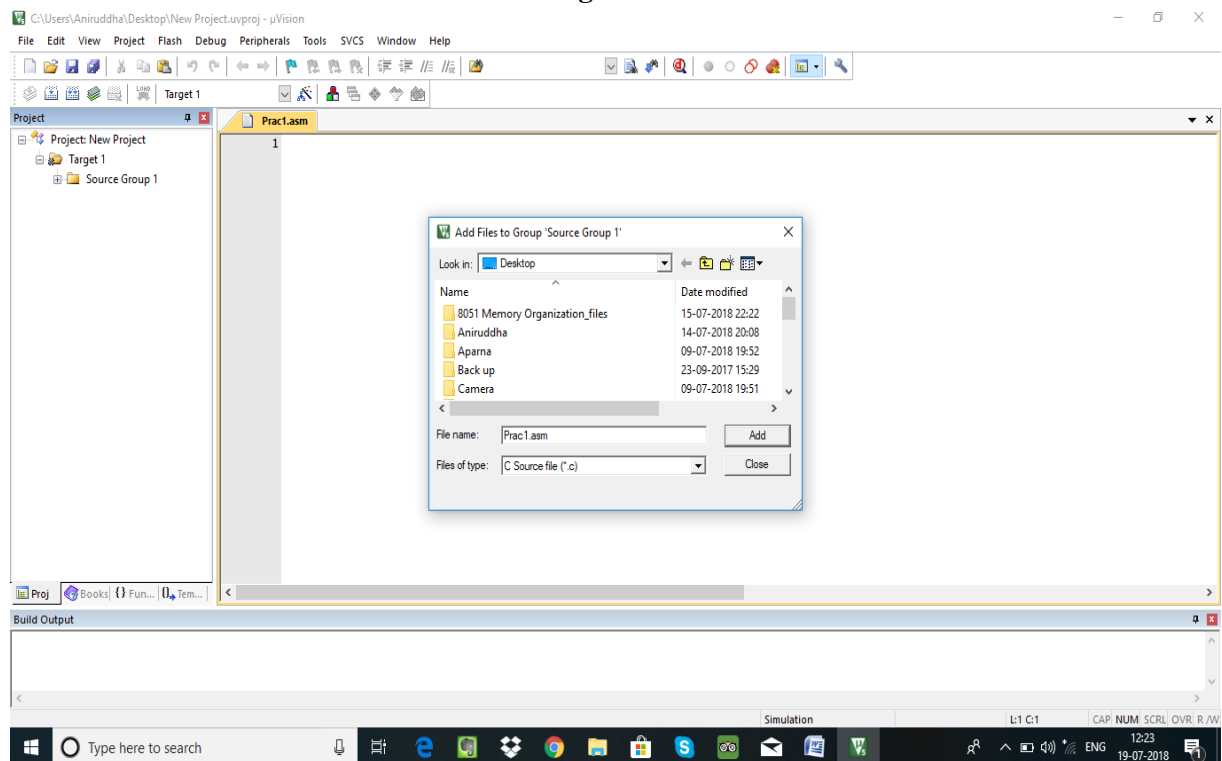

Figure. 12
3. Select file type as .asm source file. Now all .asm file names will be displayed, select appropriate file, click ADD and close. Fig. 12